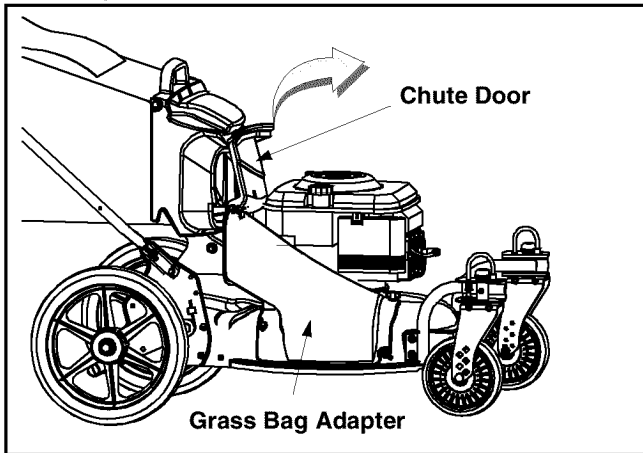

Figure 12
- Lift chute door on the grass bag adapter and slide grass bag onto the adapter. See Figure 12.